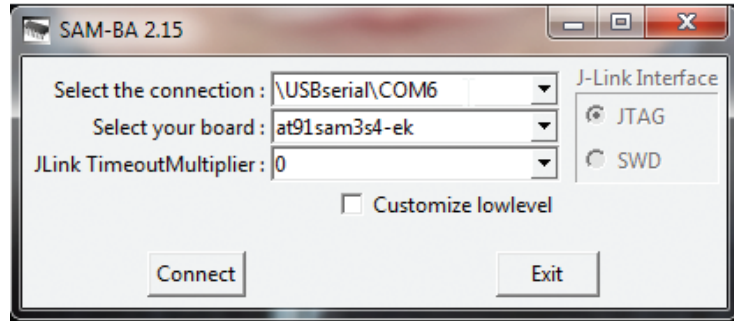

Fig. 43-1 SAM-BA Start Up Window
6. Run program SAM-BA select the connection port as “\usb\ARM0”, select board as “at91sam3s4-ek”, please see Figure 43-1.